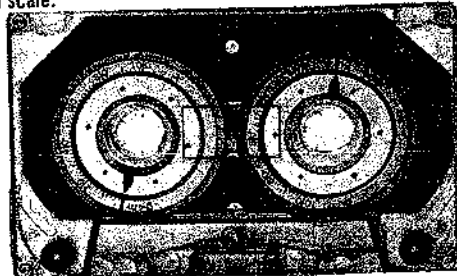

Fig. 19 Cassette Torque Meter
* Use of the Cassette Torque Meter instead of the spring scale, if you have one, is recommended for easier measuring. (See Fig. 19 on Page 11)